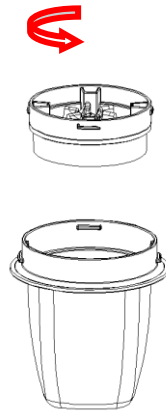

Fig.5A
- 4) Assembly the grinding cup components- Place the grinding cup seal ring into grinding cutter head components, and then buckle into the grinding cup. Please turn the cutter head components anticlockwise until tightly to ensure it assembly in place.(See Fig.5A)